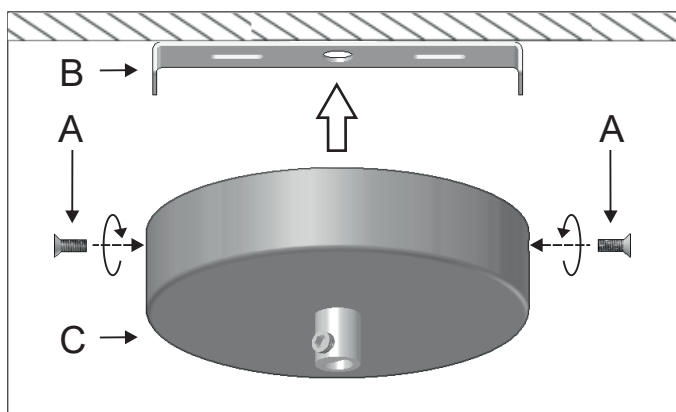

Figure 5
- 5 - Place the canopy [C] back and fasten the side screws [A] previously removed. Figure 5.